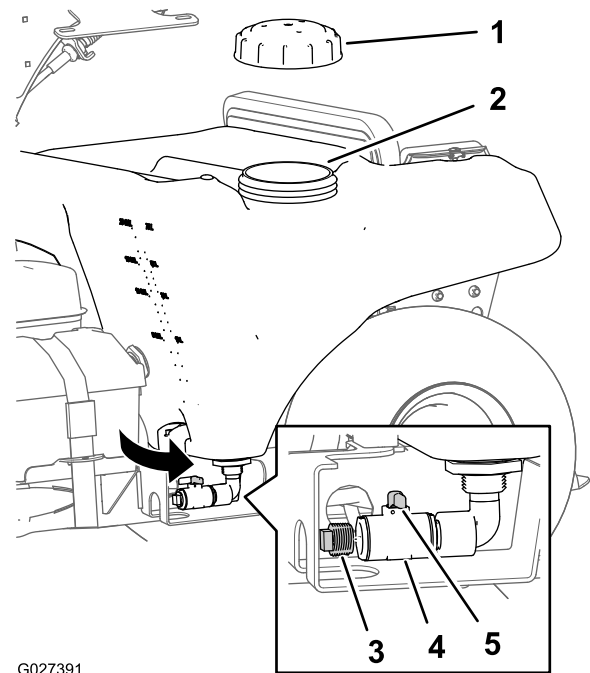

Figure 42
2. Ensure that the handle for the drain valve for the tank rotated 90 degrees counterclockwise to the is closed position (Figure 42).
4. Open the tank cap on the sprayer tank (Figure 42).